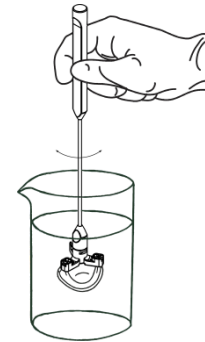

Figure 4: Rinse the valve in the sterile saline for 4 minutes, changing the saline twice (every 2 minutes).
2. Using the holder handle, fully immerse the valve, the holder, and the portion of the holder handle in the sterile saline in the first basin as shown in Figure 4.